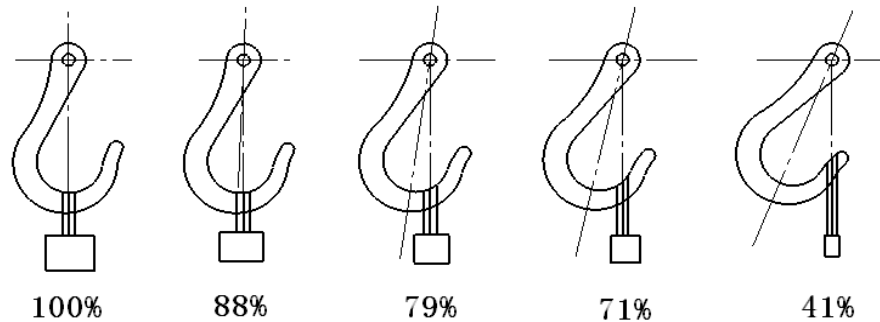

Fig. 1-1
1) Wire rope should be in the middle of the hook. If be in one end of the hook, the wire rope may drop from hook and that may cause serious accident. The biggest strength is in the middle of the hook. As shown in figure 1-1.